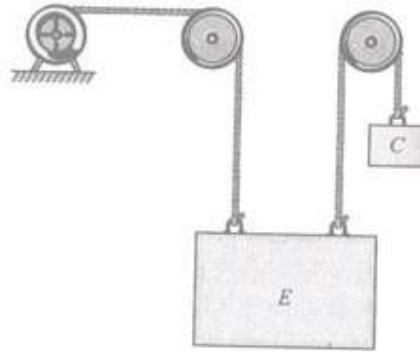

Figure 4
c. An elevator weighs 10000 N when fully loaded. It is connected to 7500 N counter weight C and is powered by an electric wire as show in the Figure 4. Determine the power required when (i) the elevator is moving upward at constant speed of 20 m/s; (ii) the elevator is moving downward at a constant speed of 20 m/s and (iii) the elevator has an instantaneous velocity of 20 m/s upward and an upward acceleration of 3 m/s².